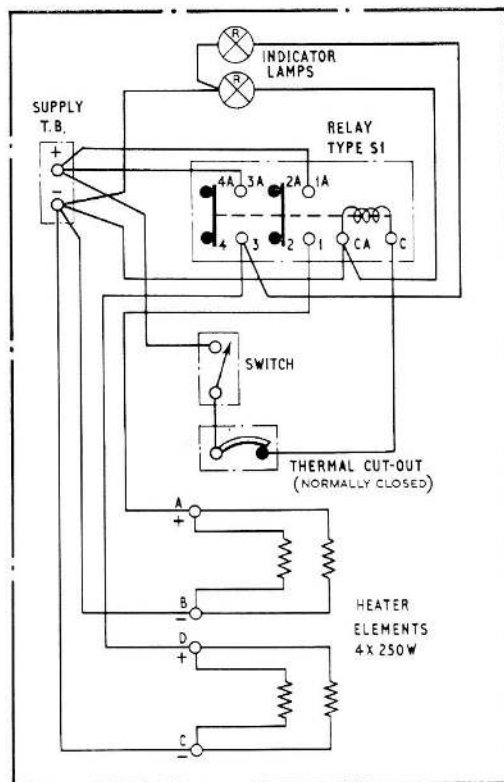

Fig. 3. Circuit diagram
4. The heater element consists of four 250 watt element loops which are switched through the relay contacts (fig. 3). The coil of this relay is controlled by a single pole ON/OFF switch through a thermal cut-out. Two lamps one in the coil circuit and the other connected to one of the relay contacts, indicate that the coil is energized and the relay contacts made.